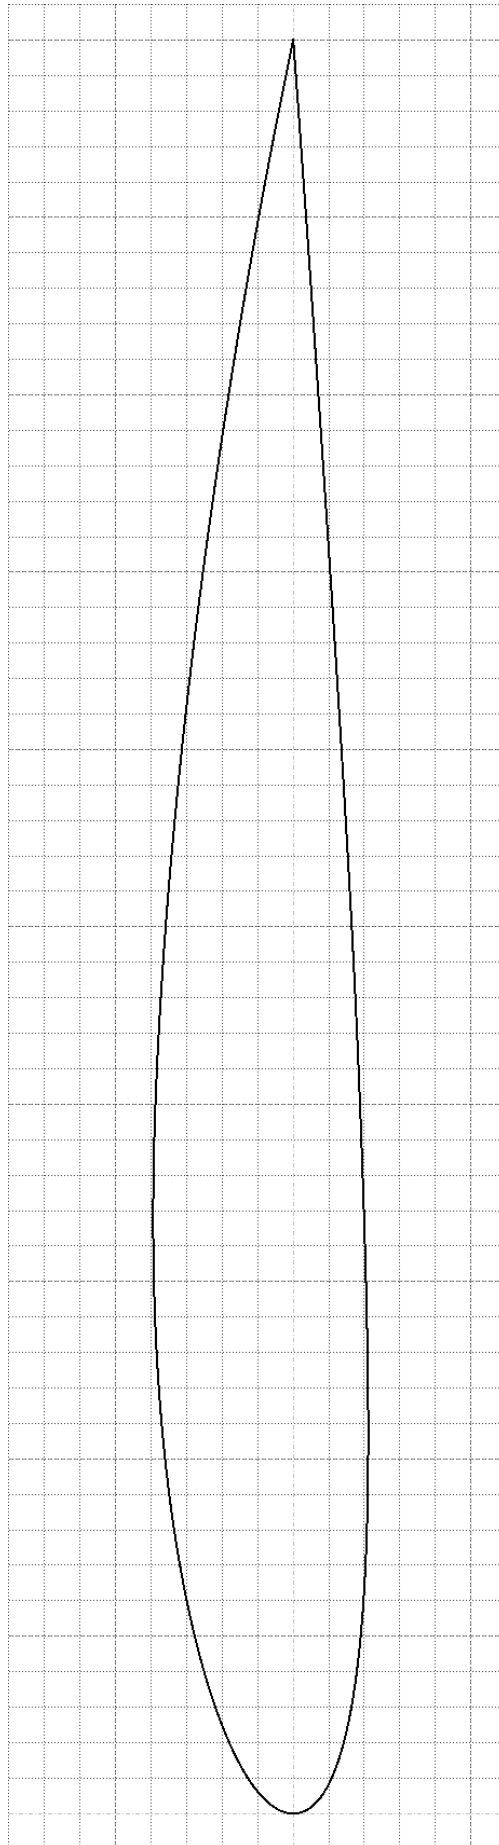

Fig. 2: Airfoil section at the wing root.
1. From visual inspection, you have a hunch that the salvaged wings are designed from a NACA-type airfoil. Determine the 4-digit NACA number of the recovered wing by cutting a 2D section of the wing, tracing it out, and measuring its dimensions. The airfoil is already traced out for you in Fig. 2. [4pts]